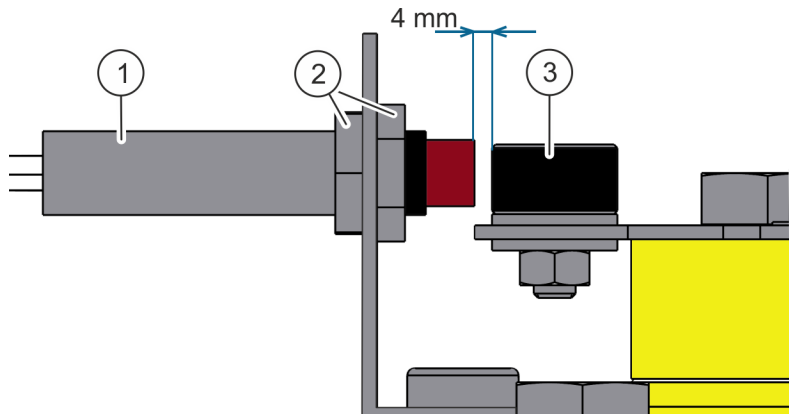

Fig. 21: Setting the rotation angle sensor
2. ➤ Loosen the nuts on the first rotation angle sensor (Fig. 21/2).
3. ➤ Set the rotation angle sensor (Fig. 21/1) so that the distance to the query element (Fig. 21/3) is no more than 4 mm.
6. ➤ Loosen the nuts on the second rotation angle sensor (Fig. 21/2).
7. ➤ Set the rotation angle sensor (Fig. 21/1) so that the distance to the query element (Fig. 21/3) is no more than 4 mm.